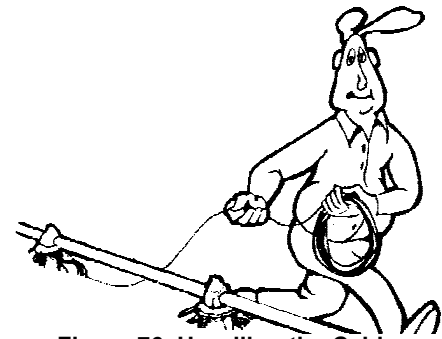

Figure 76. Unrolling the Cable
1. Unroll the bulk anti-roost cable. Note: If the cable is unrolled as shown in **Figure 76**, taking 5 loops of the coil with one hand, then changing hands to remove 5 loops as it is unrolled, it will lie flat during installation.